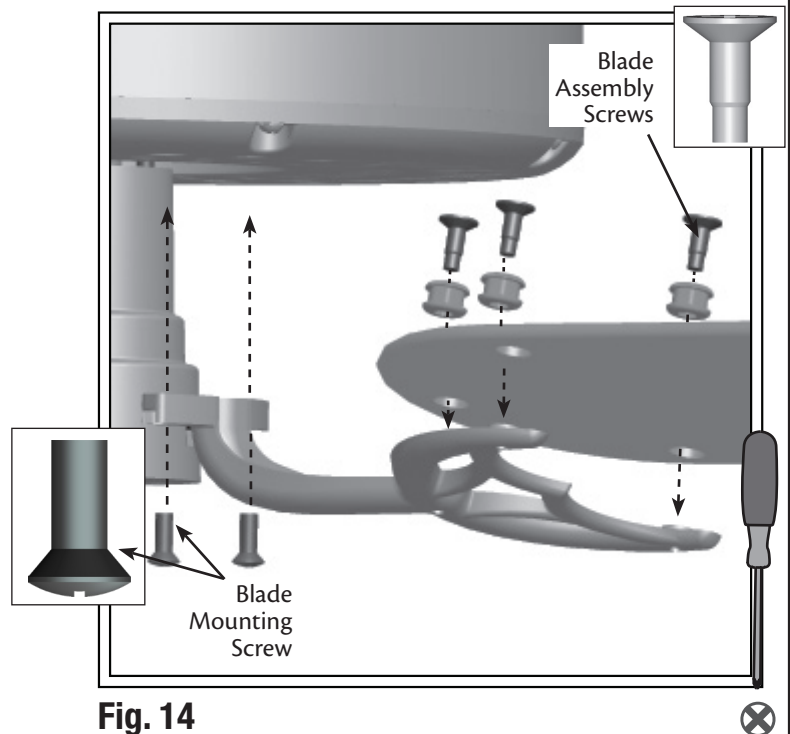

Fig. 14
2. Using a #2 Phillips-head screwdriver, attach each blade to a blade iron using three blade assembly screws, found in the ▲ hardware bag (see Fig. 14).
3. For each blade, insert one blade mounting screw, found in the ☒ hardware bag, through the blade iron, and attach lightly to the fan. Insert the second blade mounting screw, then securely tighten both mounting screws (See Fig. 14) using a #2 Phillips-head screwdriver.